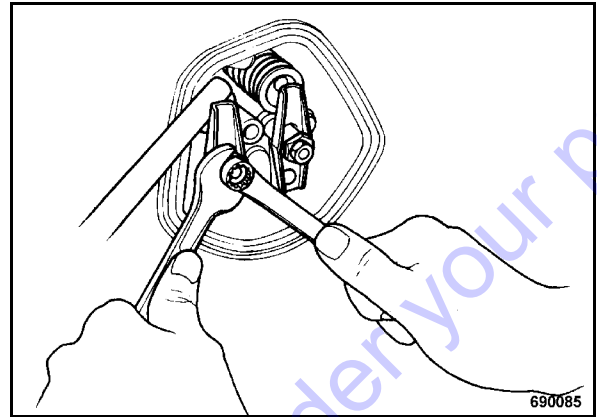

Fig. 58
- Check the valve clearance with a feeler gauge on both valves (1) (Fig. 58).